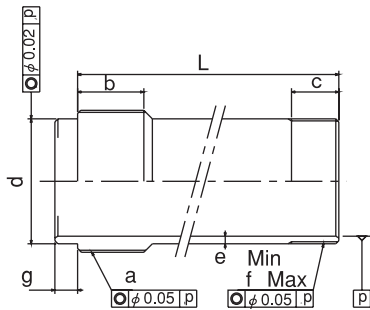

Fig.16
The dimension L in Fig.16 is determined from the distance A between the cylinder adapter and the back plate.
- Keep the dimension e and the dimension f in Fig. 16 for the draw pipe and a material with the tensile strength 380MPa (38kgf/mm2) or more must be used.